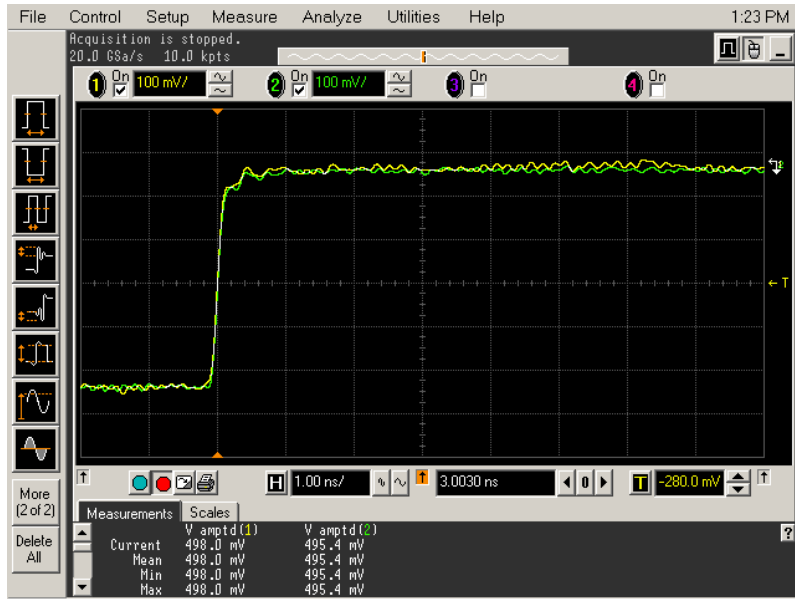

Figure 53 Overlapping Waveforms
- 23** In the Acquisition Setup dialog box enable averaging. When you close the dialog box, you should see waveforms similar to that in **Figure 53** on page 88.